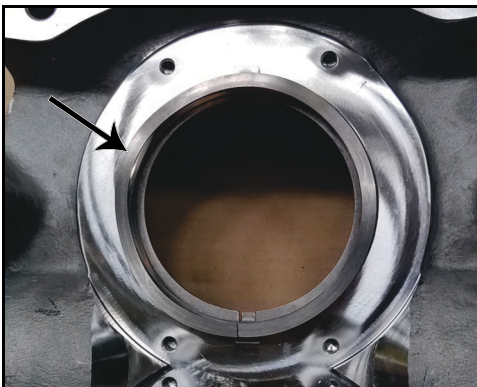

Figure 65 - Wave spring installed
4. Install the wave spring, centering it on the drive ring. Figure 65 shows the wave spring installed.